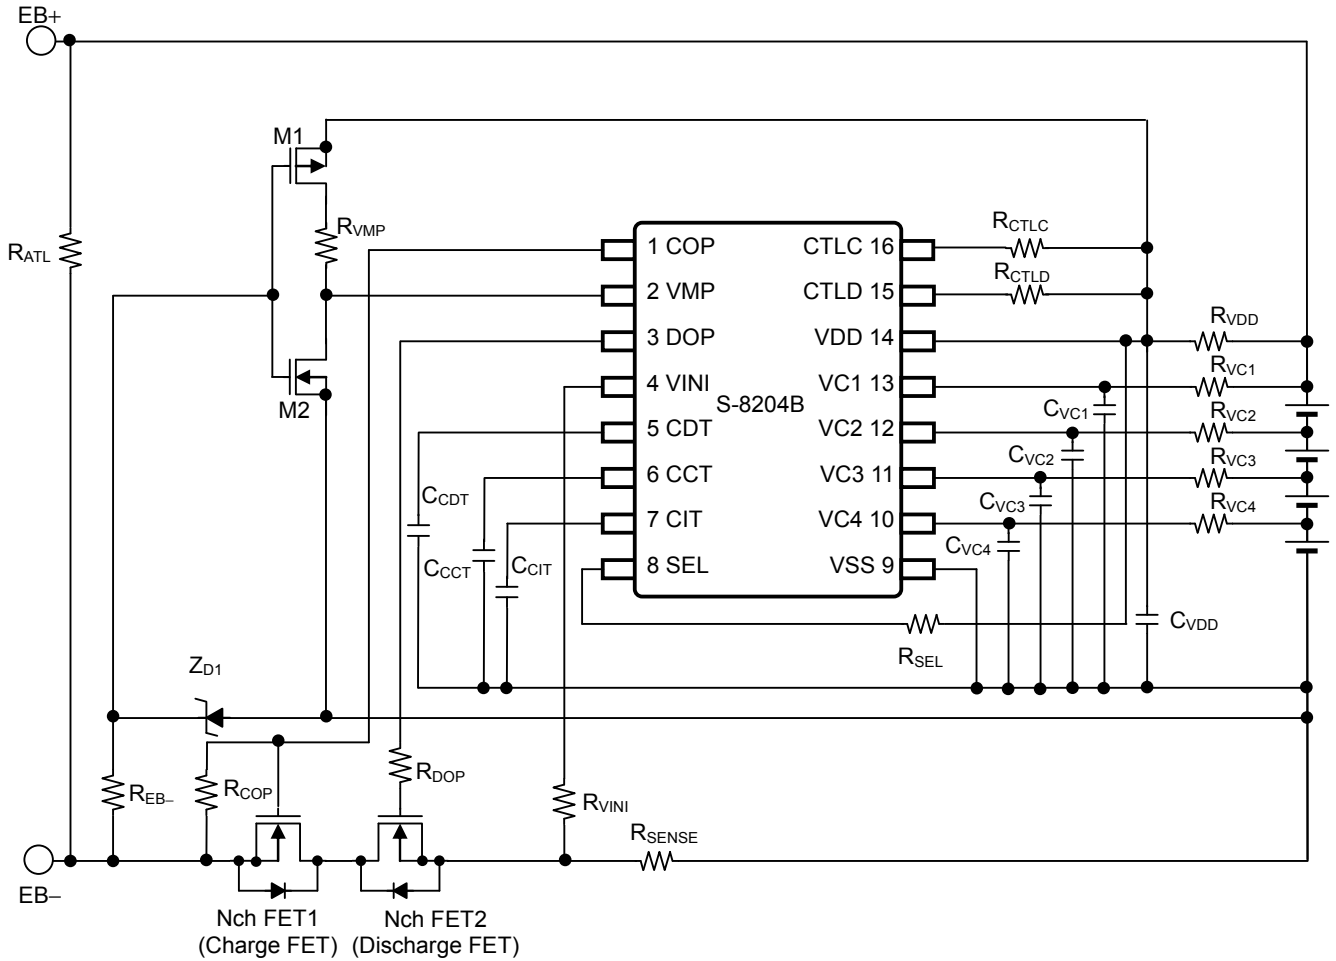

Figure 11
■ Timing Chart (Circuit in Figure 11)
Table 10 Constants for External Components (Circuit in Figure 11)